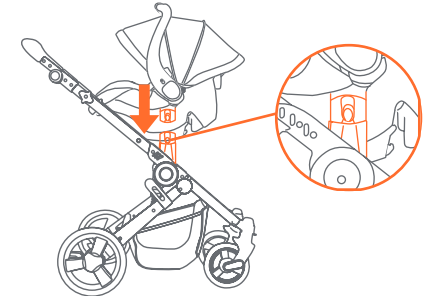

Fig. 17
- 17) • Attach the car seat by lining up the seat anchors on the side of the car seat with the anchors on the stroller frame and push them together until they lock securely (Fig. 17).